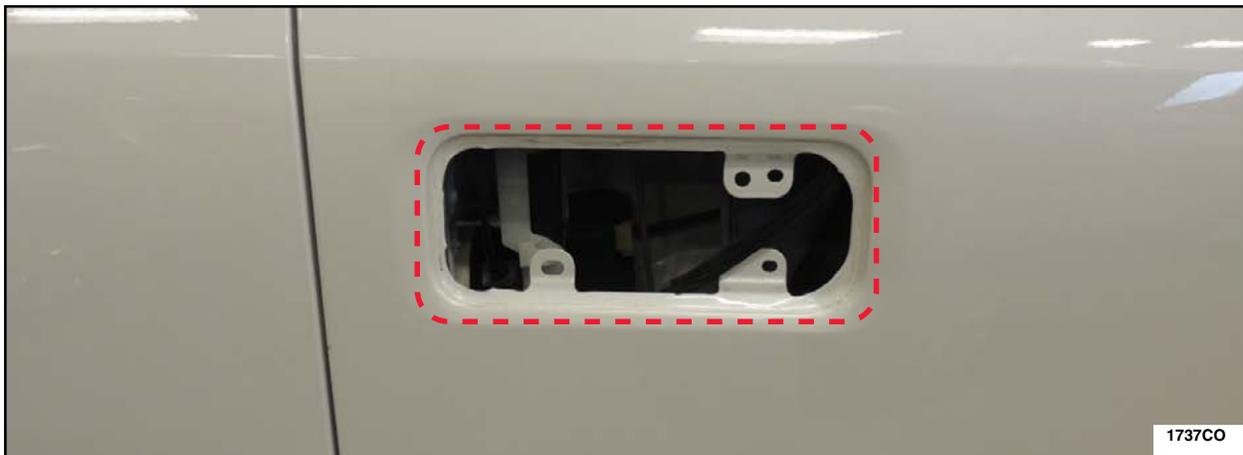

FIGURE 11
17. Thoroughly remove the existing TA-30 silicone sealant then using a clean shop cloth and isopropyl alcohol clean inside the dotted lines on the mating surface area of the front exterior door handle openings. See Figure 11.